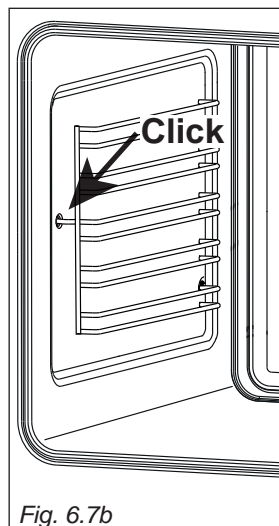

Fig. 6.7b
- Slide the front prong of the side rack into the holes at the front of the oven (fig. 6.7b).